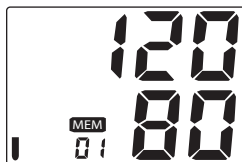

Fig. 1
4. When the first measurement is on the display (indicated by the 01 at the lower left of the screen), Fig. 1, press and hold the **MEM** button until two horizontal lines flash, Fig. 2. This indicates that all measurements have been erased. Press **START** to turn the unit off.